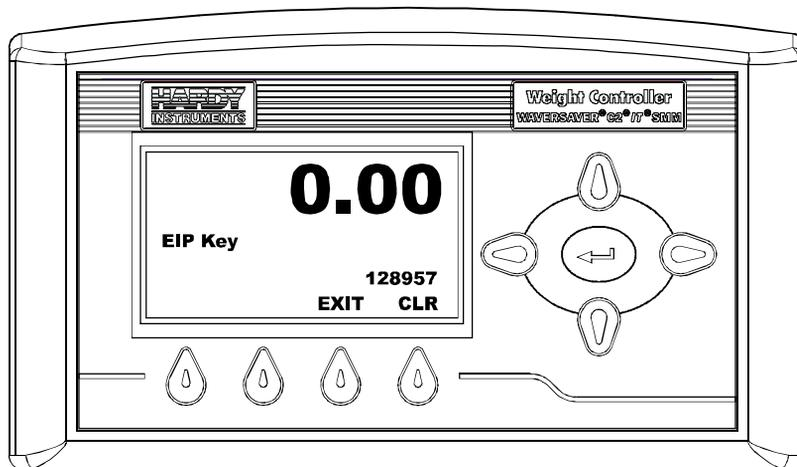

FIG. 129 EIP KEY MENU/WITH KEY
Step 7. Use the up and down arrow buttons to enter the key number you received from Hardy Instruments Service Center. (See Fig. 129)